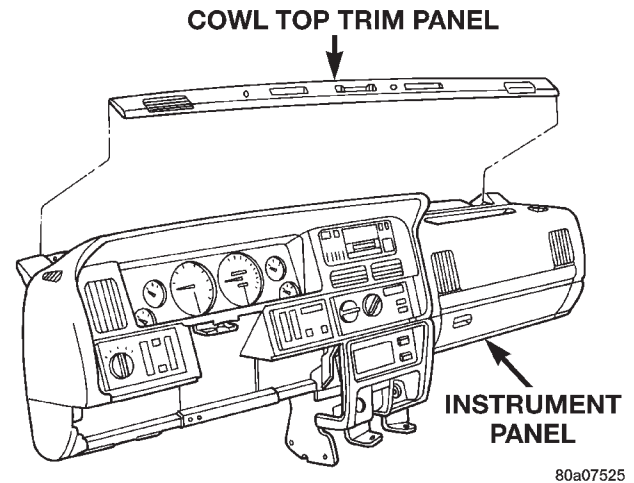

Fig. 14 Cowl Top Trim Remove/Install
(1) Disconnect and isolate the battery negative cable.
(2) Using a wide flat-bladed tool such as a trim stick, pry the cowl top trim panel off of the instrument panel top pad (Fig. 14).
(3) Pull the panel up far enough to unplug the wiring connector for the solar sensor, or to remove the solar sensor from the cowl top trim between the right and center defroster outlets, if so equipped.
(4) Remove the cowl top trim panel from the vehicle.
(5) Remove the auto headlamp light sensor/vehicle theft security system set lamp mounting screw near the left defroster duct outlet.